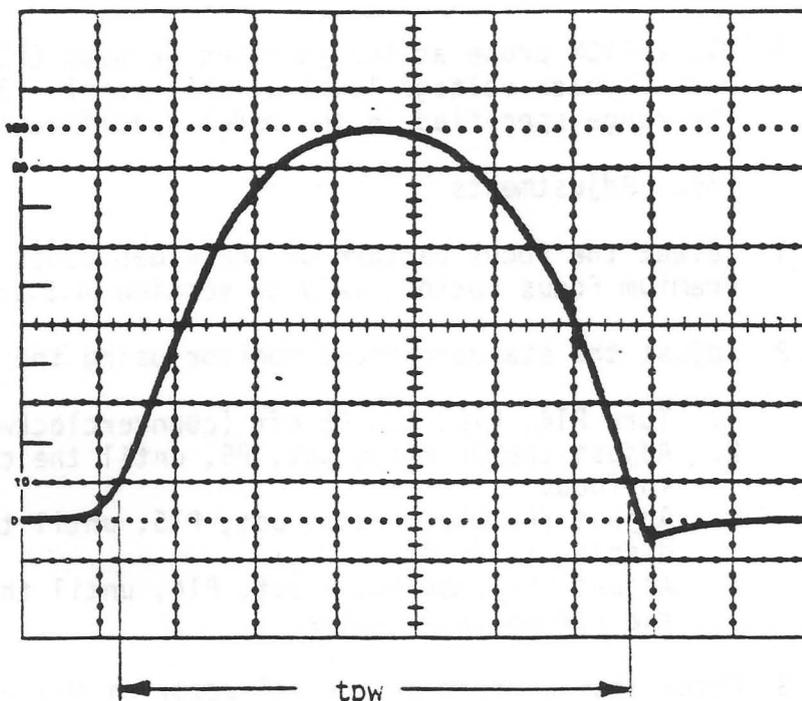

FIGURE 11
- 4.5.24.3 Measure the flyback pulse width at the 10% time division, as in Figure 11.